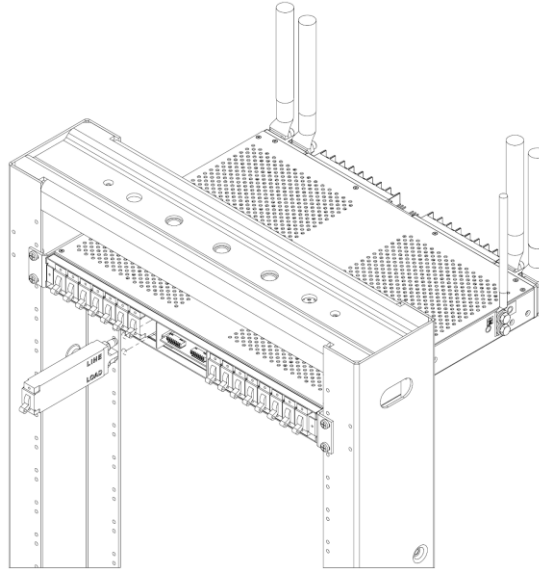

Fig. 2-9: Installing Breakers
20. Install circuit breaker in the desired circuit, as shown in Fig. 2-9. Ensure “Line” is on top.
**NOTE:** Ensure the corresponding DIP switches for installed breakers are in the down (ON) position and that the DIP switches for the corresponding empty positions are in the up (OFF) position.